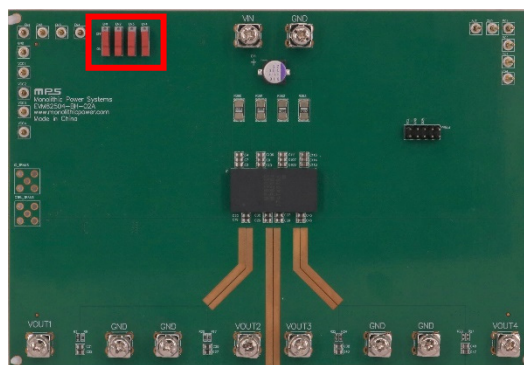

Figure 3: EN Pin Pulled Down
- d. Pull the EN pin down before powering up the board (see Figure 3).